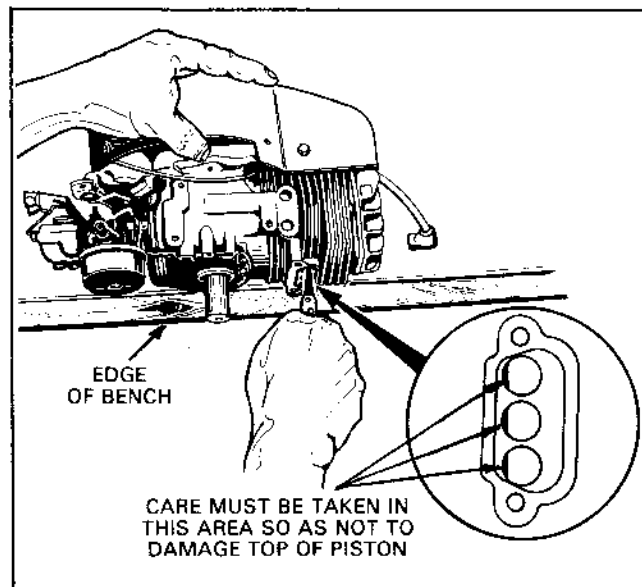

Figure 2-14
- (1) Remove muffler, adapter or other parts used, depending on type.
- (2) Remove spark plug.
- (3) Position piston to bottom-dead-center.
- (4) Position engine as shown in Figure 2-14.